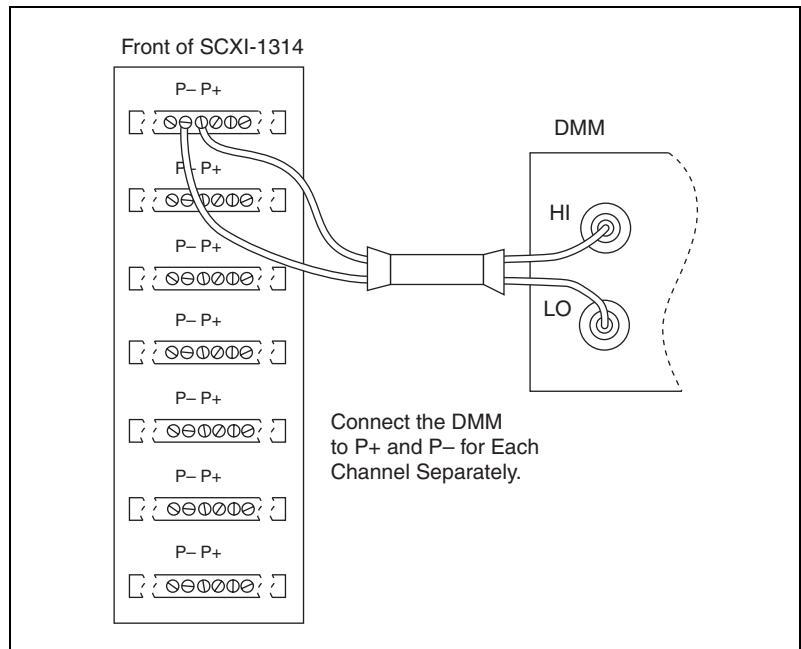

Figure 3. SCXI-1314 DMM Connections
1. Connect the DMM positive input lead to each channel (terminal P+) of the SCXI-1314 terminal block, as prompted by Calibration Executive and shown in Figure 3.